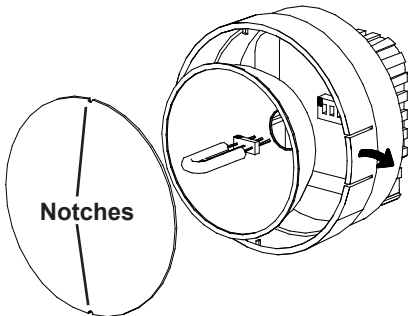

Figure 4 Lamp Replacement
3. Using a lint-free cloth, insert the new lamp by gently rocking the lamp while pushing it into place (see Figure 4). Make sure the lamp is in straight and centered in the reflector hole.
4. Reinstall the reflector and then position the front lens in place matching up the notches on the lens with the two small tabs on the housing to prevent lens rotation (see Figure 4). Push the tabs on the front rim outward and press the lens into place.
The AC-powered stroboscope has a replaceable fuse inside the unit which may be accessed by removing the lens and reflector - refer to Figure 4. If the fuse needs to be replaced, replace only with a fuse of the same type and value: Fast Blow - 750 mA, 2AG.